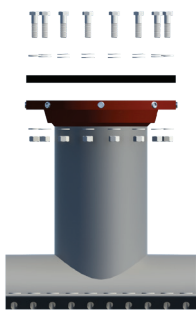

Figure C-2
C.2) Unbolt and remove the top flange of the valve body and store the O-ring, nuts, and bolts in a place they will be free from debris (see Figure C-2).